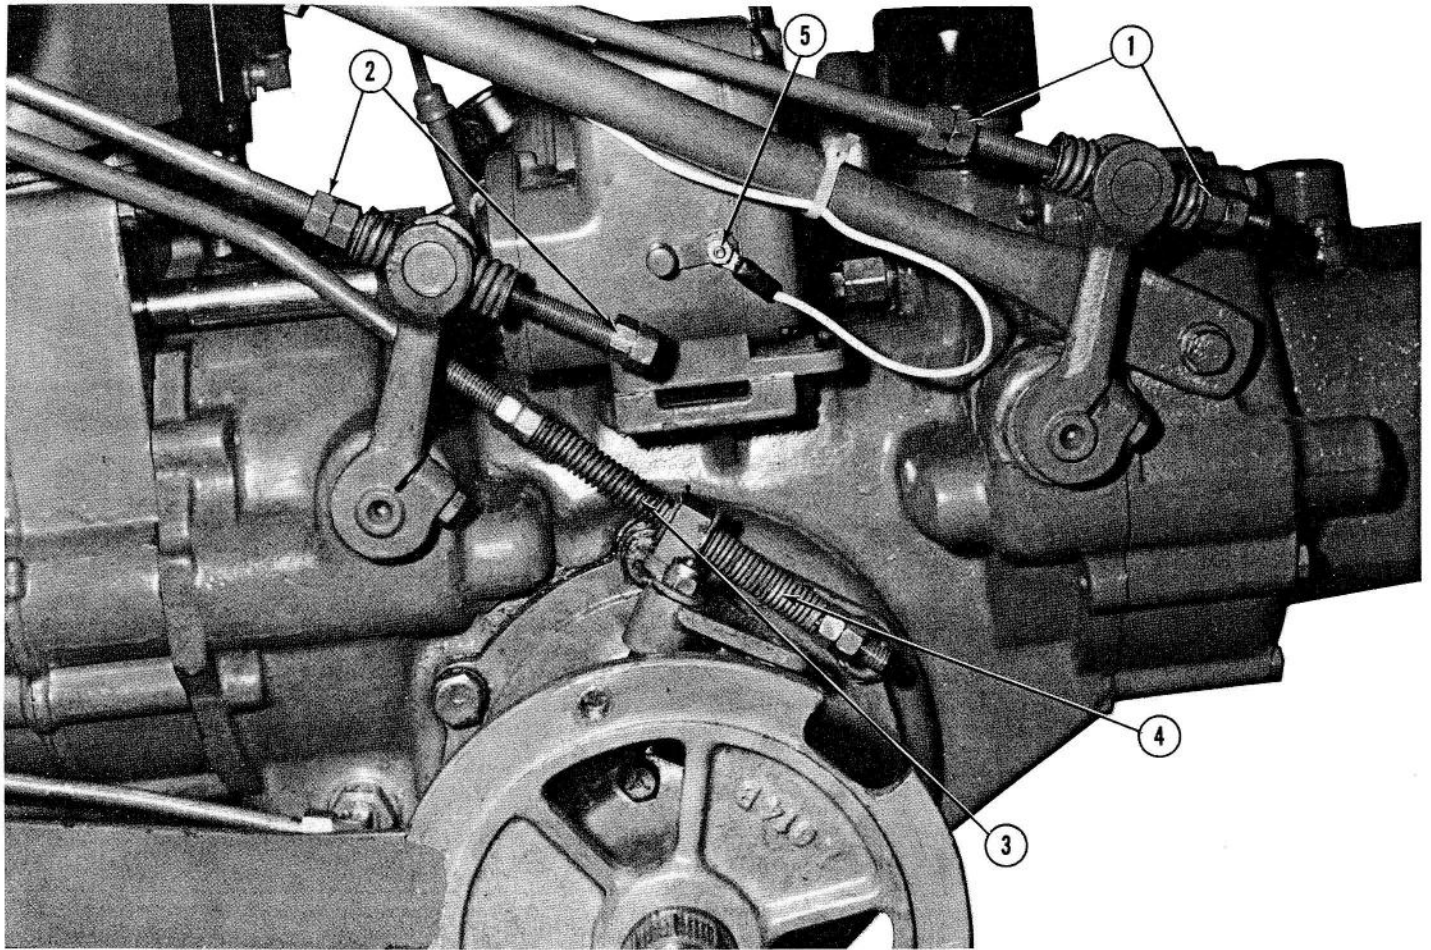

Figure 8
- . . . Ignition stop button is shorted out. To test, remove the ground wire from the magneto stop button and attempt to start the engine (See 5, Figure 8).
**Clutch Rods**—To adjust clutches, tighten the lock-nuts, 1 and 2 in Figure 8, until the clutch rod springs are compressed fully as each lever is locked in position.
**Eight-speed Transmission Linkage**—The toggle spring (located by the swiftomatic lever) occasionally may require adjustment by tightening the hex nuts on the toggle rod until the spring is compressed to 15/16-inch. To adjust springs, (3 and 4 in Figure 8), have the range selection lever engaged fully in high or low range, move the hex nuts (1 and 2 in figure 8) on the spring rod until each spring is compressed to 2-1/2 inches.